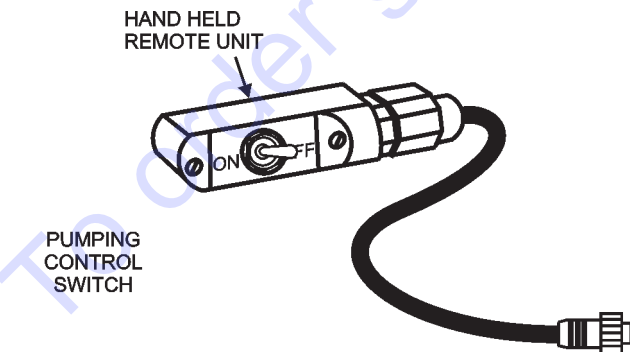

Figure 20. Handheld Remote Control Cable
1. Connect the hand-held remote control cable (Figure 20) to the control box.